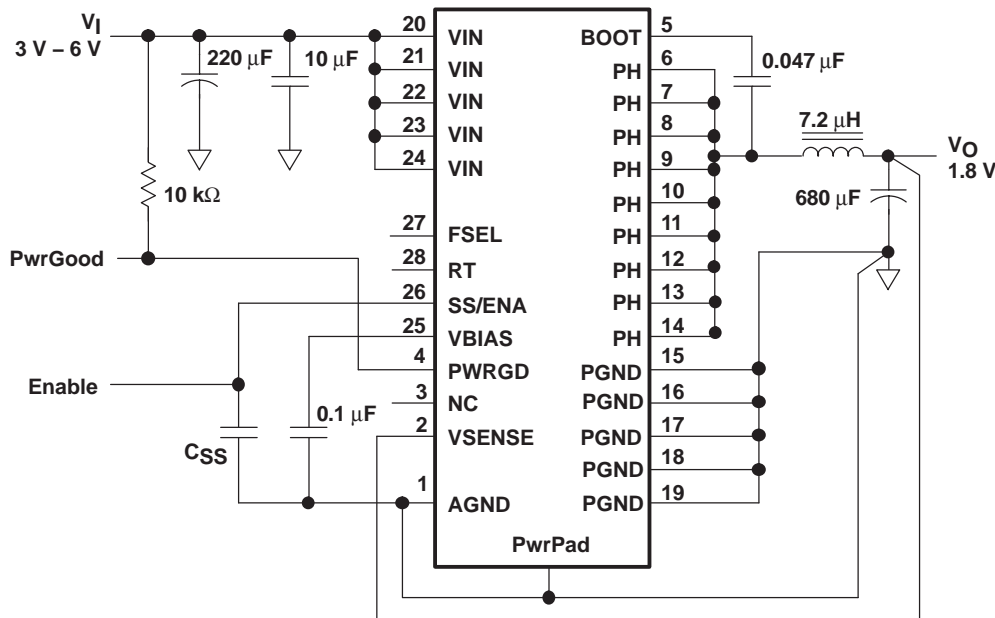

Figure 10. Application Circuit
(1) Specified by design
(2) Static resistive loads only
(3) Tested using circuit in Figure 10.
(4) To ensure proper operation when RC filter is used between external clock and FSEL pin, the recommended values are $R \leq 1\text{ k}\Omega$ and $C \leq 120\text{ pF}$.
Figure 10 shows the schematic diagram for a typical TPS54614 application. The TPS54614 (U1) can provide greater than 6 A of output current at a nominal output